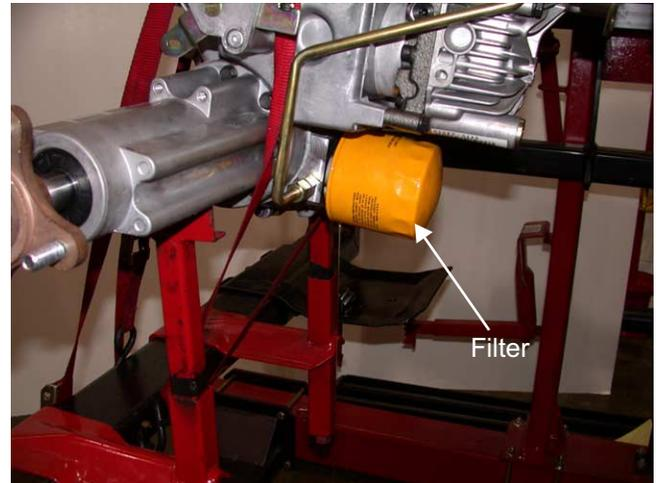

Figure 7.17
7.17. Before disassembly be sure to loosen the filter using a strap wrench and let it drain as much as possible, also open transfer line and let it drain. Maintain alignment of transmission and frame to assist in installation. See Figure 7.17.